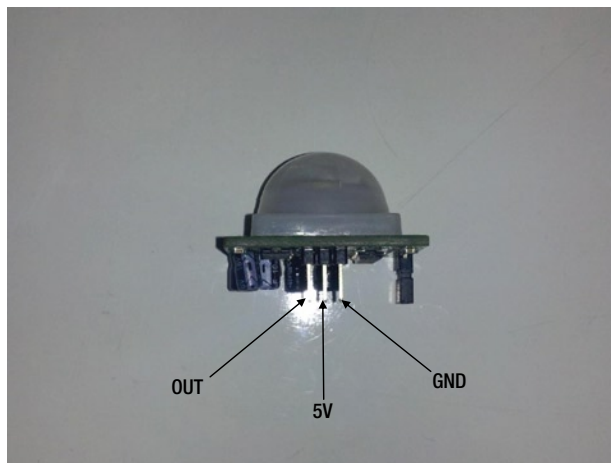
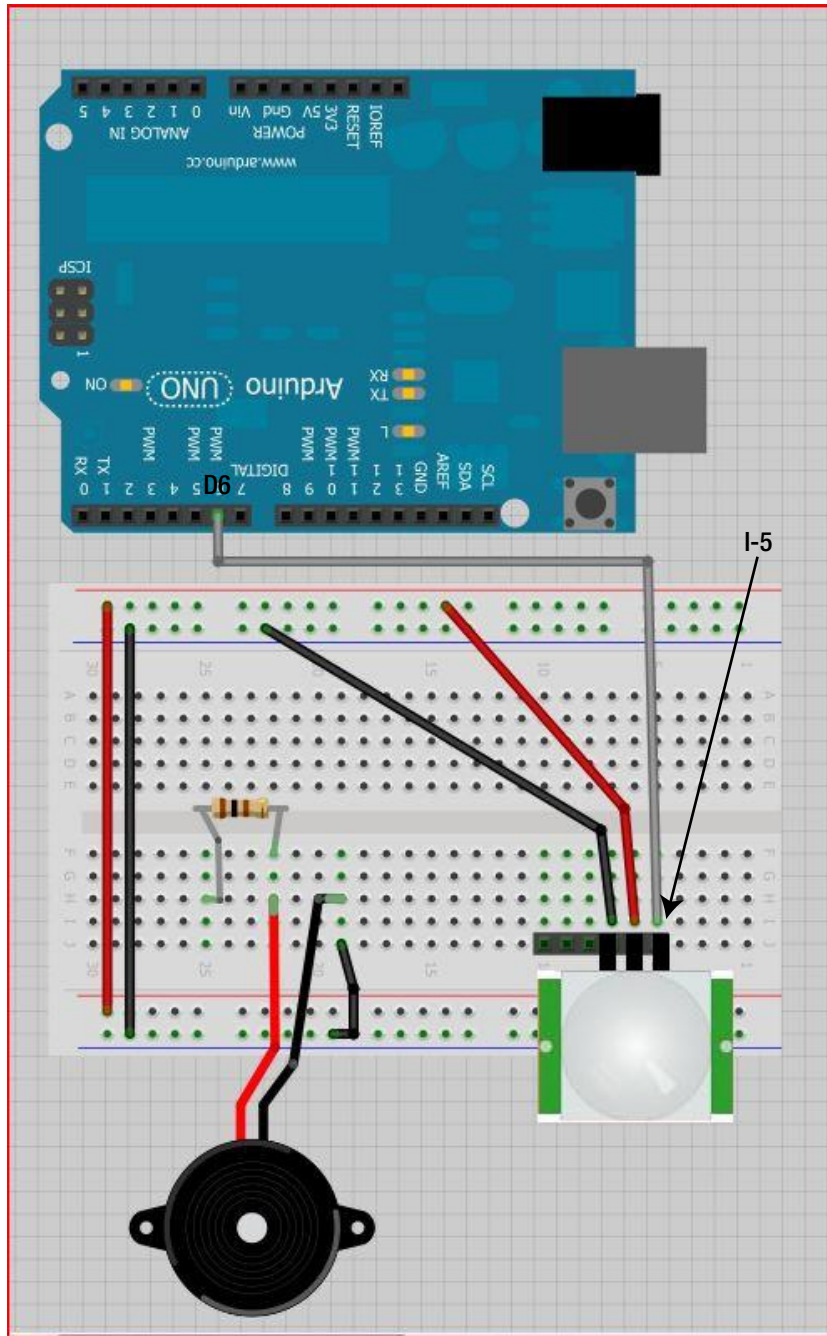

Figure 19-1. A PIR sensor with its pinout
Figure 19-11. Connect the OUT pin of the PIR sensor to digital pin 6 of the Arduino
One of the new pieces of hardware for Challenge 5 is the passive infrared (PIR) sensor shown in Figure 19-1. This PIR sensor detects changes in infrared (heat) radiation, which makes it very easy to adapt it to motion detecting as every object has some form of heat radiation. All forms of matter produce heat, especially people! The PIR sensor can detect the body heat given off by a person.
Notice in Figure 19-1 that the PIR sensor has three pins (just like the temperature sensor you've already used). The 5V pin (in the center) is where you'll provide 5 volts; this will come from the Arduino.
10. Now let's bring the Arduino into the circuit. Connect the Out pin (refer to Figure 19-1) of the PIR sensor to the Arduino by running a wire (we used green) from I-5 to D6 (digital pin 6) on the Arduino. Figure 19-11 illustrates this process.